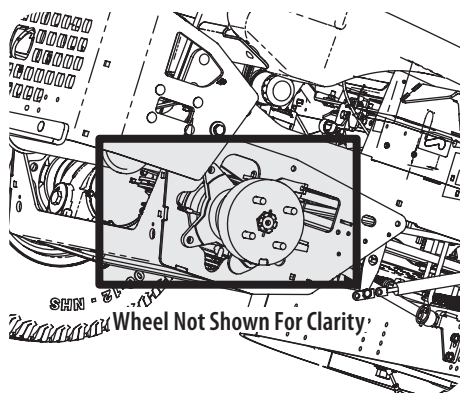

Figure 4-3
- Clean around and near the transmission, axle and the fan area. See Figure 4-3.